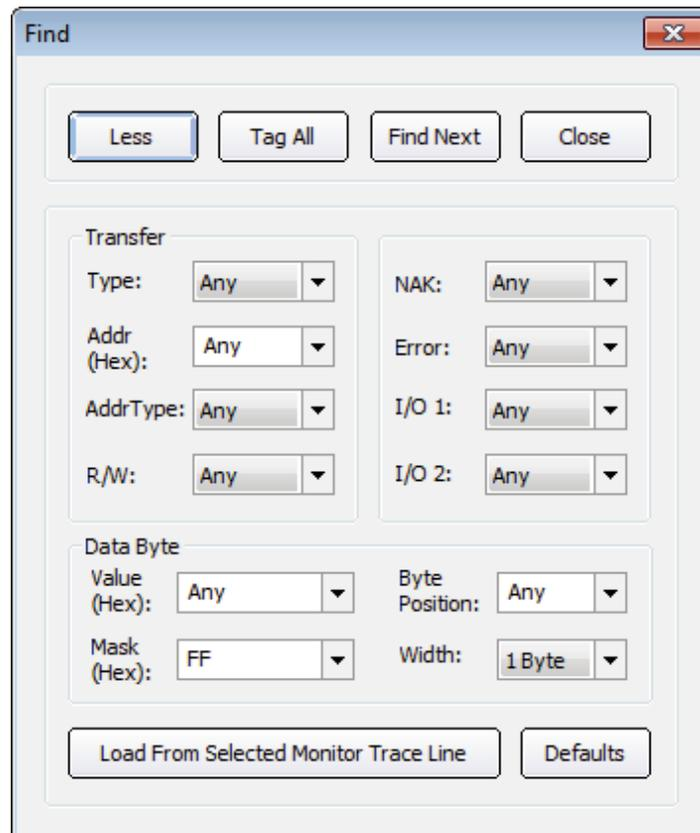
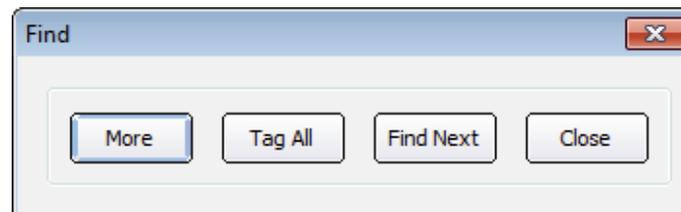

Figure 135. Monitor Find Dialog – Regular
Figure 136. Monitor Find Dialog – Compact
**Find...** – Launches the **Find** dialog in either the regular (“More”) or compact (“Less”) mode depending on the last used size as shown in Figure 135 and Figure 136. This dialog allows the user to search through the trace listing for transactions matching the specified pattern.
You can use the Find function to search for entries in the trace buffer matching user specified criteria. Figure 135 and Figure 136 show the regular and compact version of the Find dialog box. The regular (full-size) dialog allows the user to configure the various transaction search conditions, including don't-care entries. If the user plans to search for the same set of conditions frequently, clicking on the **Less** button will cause the dialog to shrink to its compact size. This allows the user to repeatedly search for the current transaction criteria while reducing screen clutter.